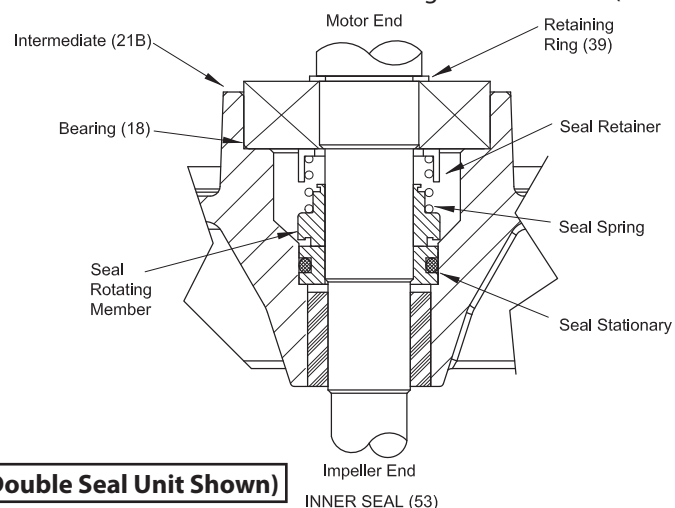

Figure 5 (Double Seal Unit Shown)
Bearings - Remove retaining ring (39) from shaft. Using a wheel puller or arbor press remove bearing (18) from shaft. Remove upper motor bearing from shaft with a bearing puller. (See Figure 5).
Lightly oil (**Do not use grease**) shaft, bullet, and inner surface of bellows on rotating member, with finished end away from motor, slide rotating member over bullet and onto shaft until it engages spring. Make sure spring is seated in retaining ring and spring is lined up on rotating member and not cocked or resting on bellows tail. (See Figure 5)